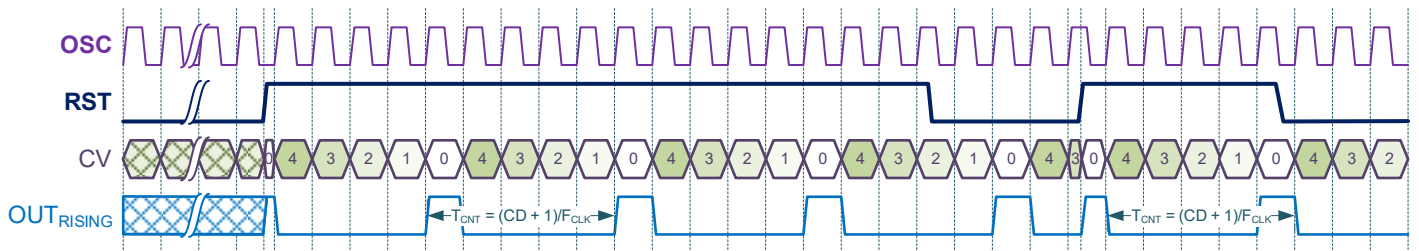

Figure 9.7. Counter Mode Timing Diagram (TMR0, TMR1, Rising Reset, Forced OSC, Auto OSC)
- Counter (Figure 9.7...Figure 9.12, Figure 9.32...Figure 9.35)
In the Counter mode the TMR divides input clock signal by the value determined by the Control Data, input clock signal and selected divider value. The output of the TMR goes HIGH every time when the Counted Value (current value of the counter) is equal 0. The RST in of the TMR reset Counted value to 0 by one of the following events: rising edge, falling edge, both edges, high level. The timing diagrams of this mode is shown in the Figure 9.7...Figure 9.12.
- Counter (Figure 9.7...Figure 9.12)